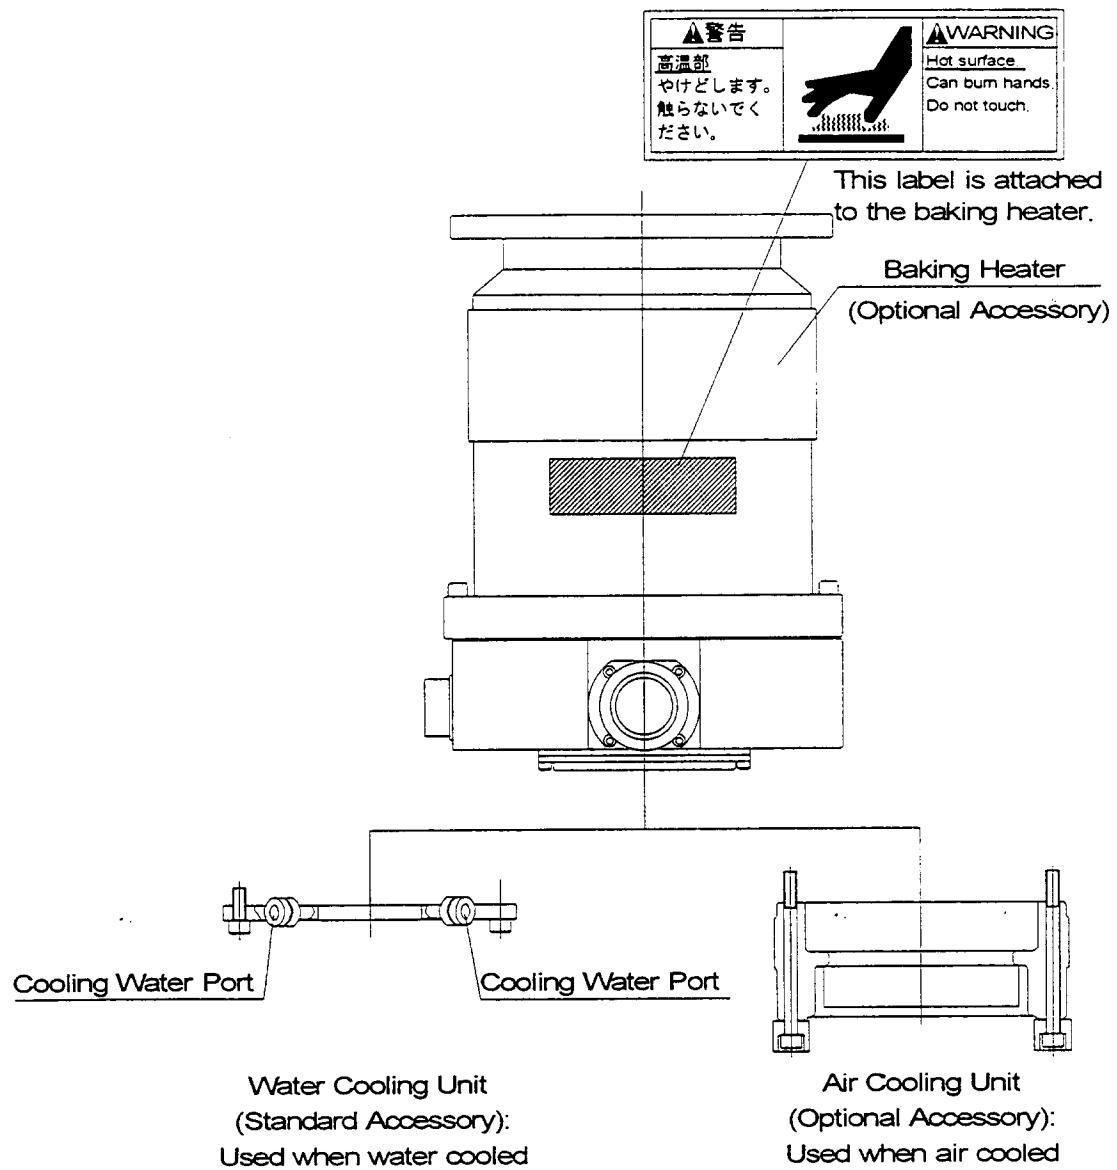

Figure 7.1 Attaching Positions of the Cooling Unit and Baking Heater
(See Figure 7.1.)
- 1) Connect the cooling water pipe to the cooling water port in accordance with Figure 7.1.
- 1) Attach a baking heater (optional accessory) as near as possible to the inlet port flange (see Figure 7.1, "Attaching Positions of the Cooling Unit and Baking Heater").
- 2) Affix the "Hot Surface Warning Label" to the surface of the STP pump so that the operator can see it clearly at any time (see Figure 7.1, "Attaching Positions of the Cooling Unit and Baking Heater").